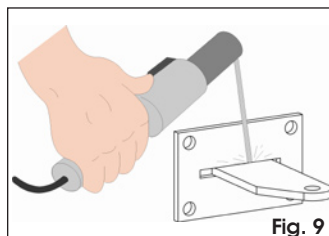

Fig. 9
- i- Weld the rear bracket to the plate and screw it on, inserting it in the slot (Fig. 9).